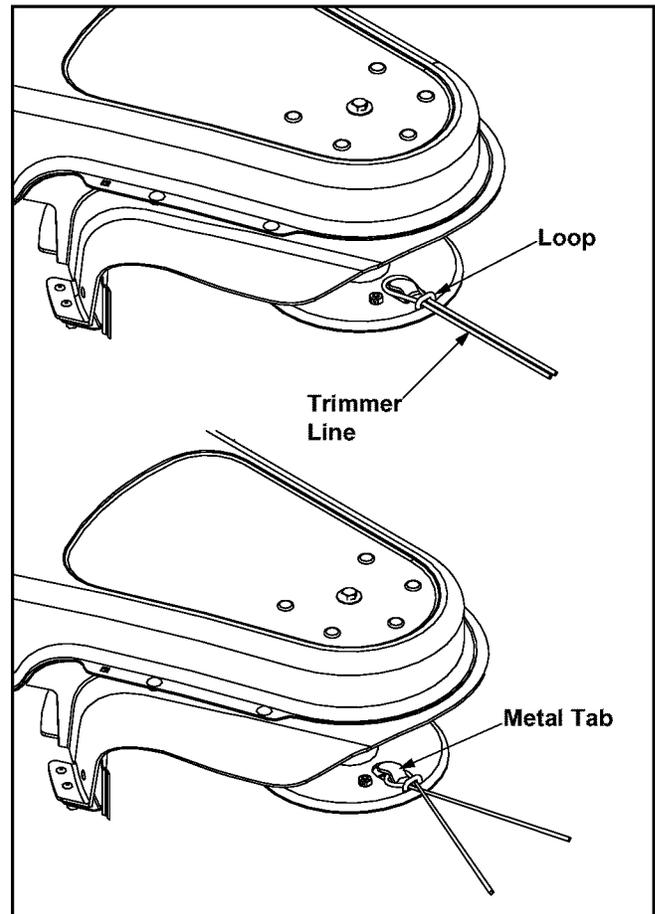

Figure 8
- Fold new trimmer line in half and thread the ends of line through the loop from the inside out without going all the way through the loop. See Figure 8.
- Slide the loop end of the trimmer line under the metal tab and secure in place by crossing and pulling tight on the ends of the line. See Figure 8.